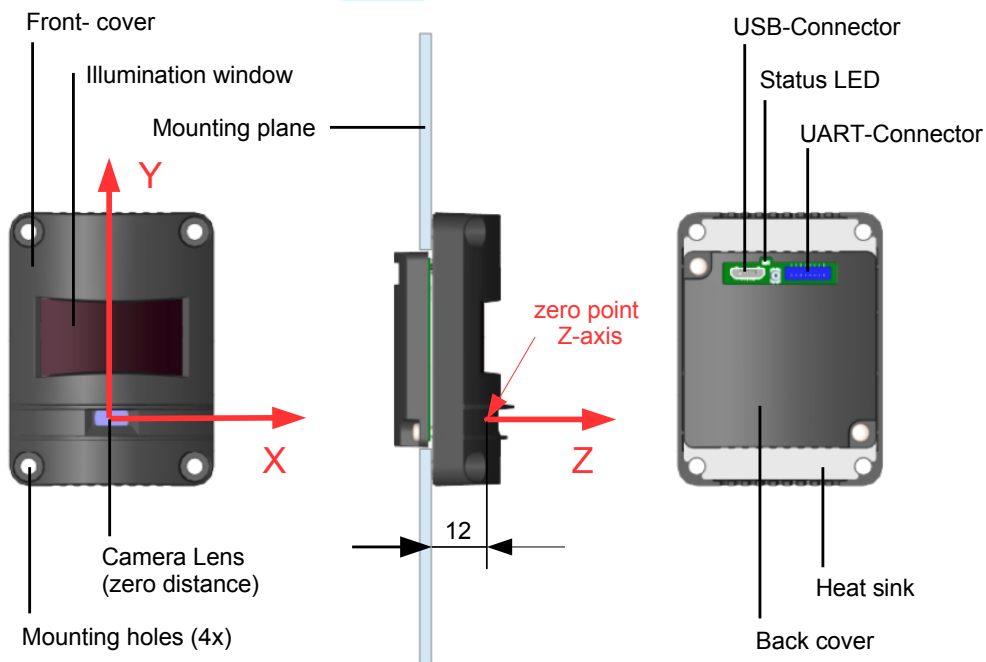

Figure 7: Mechanical features
- “Offset” shifts the zero distance from its original z-axis zero point (refer to Figure 7).